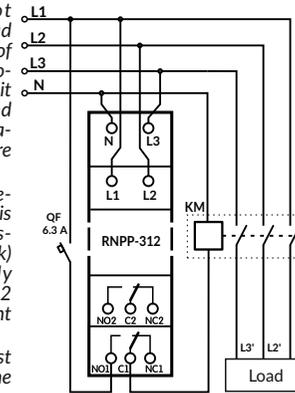

Figure 2
3) Connect the device according to the diagram shown in Fig. 2.